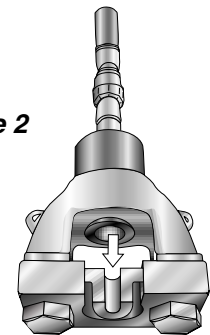

Figure 2
2. Insert "U-shaped" Nut Support ring into the back-up plate of the Hydraulic Ram as shown in Figure 2.